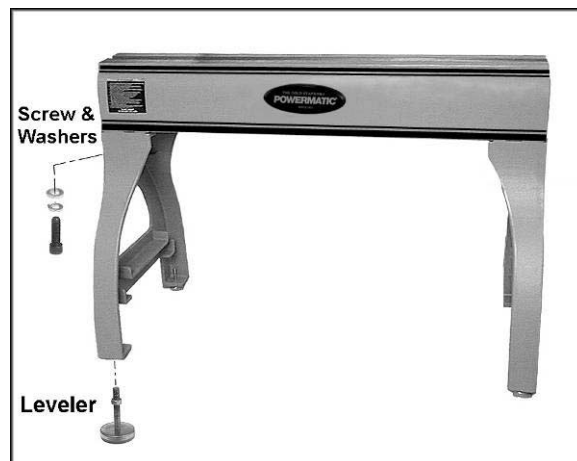

Figure 1
4. Install the legs to the bed using eight socket head cap screws with eight lock washers and eight flat washers (Figure 1). Tighten the screws firmly with an 8mm hex wrench.
5. Screw the levelers into the threaded holes of the legs (Figure 1). Tighten the hex nuts against the bottom of the legs with a 14mm wrench. The levelers can be adjusted at any time to ensure the Lathe is stable and level.